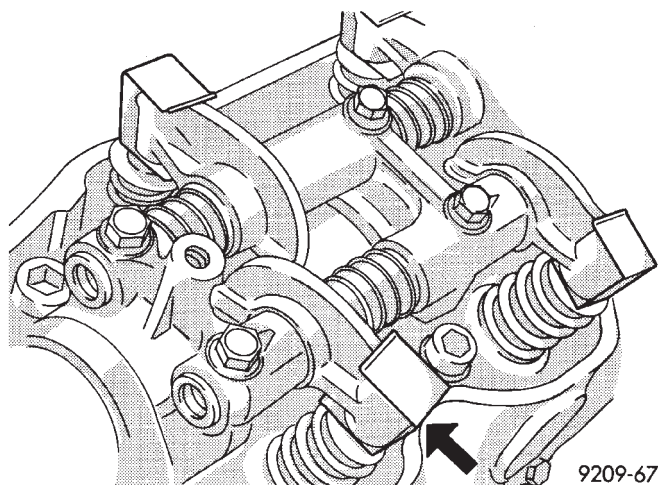

Fig. 4 Auto Lash Adjuster Retainers
- (1) Install auto lash adjuster retainers. (Fig. 4).